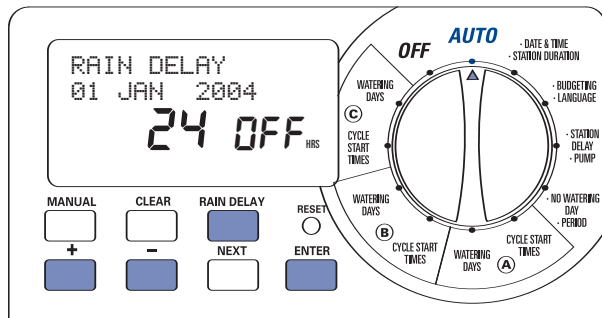

Figure 13: “Rain Delay” set for 24 hours
2. Press the **RAIN DELAY** button to automatically delay watering for 24 hours. [See Figure 13]